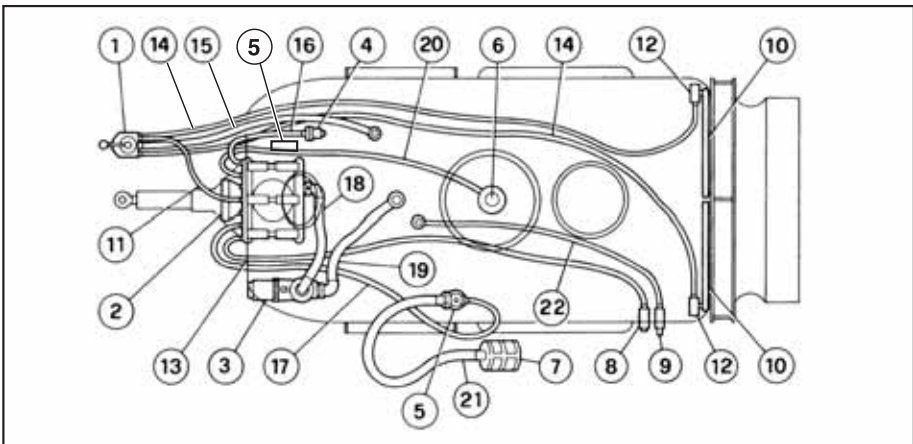

Fig. 7
3.5.7 IMPIANTO IDRAULICO (Fig. 7)